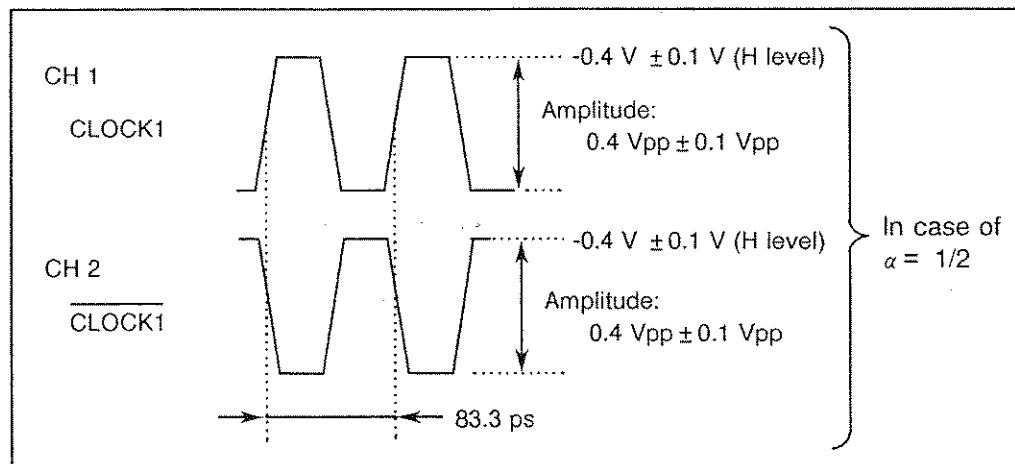

Figure 8-11 CLOCK1, $\overline{\text{CLOCK1}}$, Output Waveform (TO -2V, $f = 12000 \text{ MHz}$)
- (7) Confirm that the waveform is a rectangular wave as shown in figure 8-11.